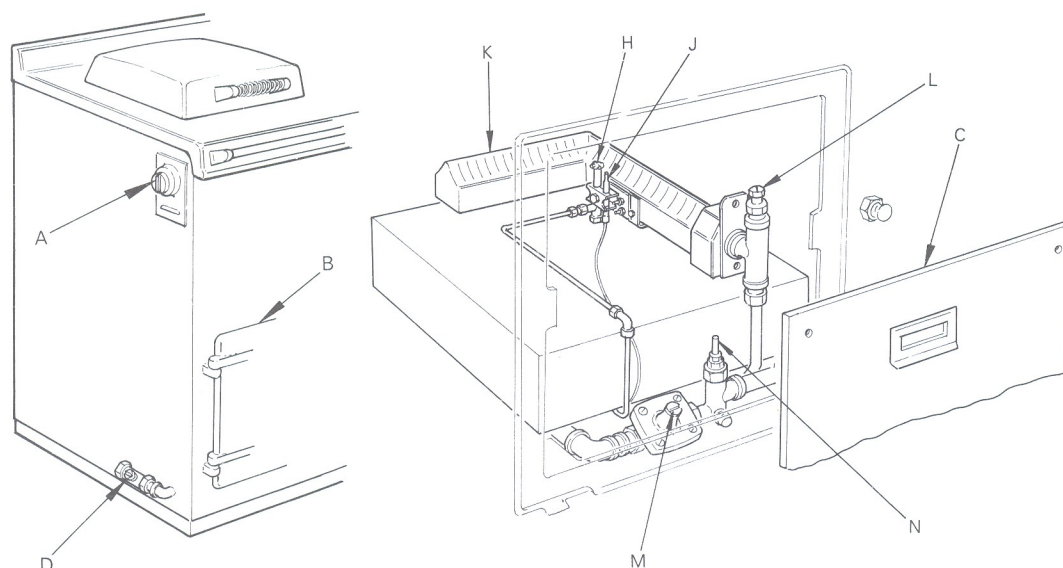

Fig.1
1. To Obtain Servicing Access - Fig.1.